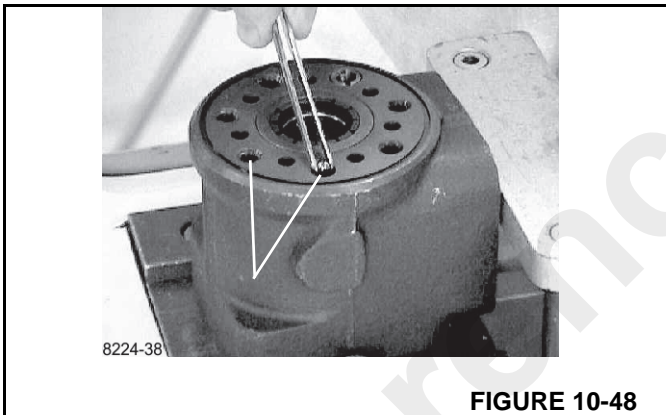

FIGURE 10-48
18. Place a ball in the two holes indicated (Figure 10-48).